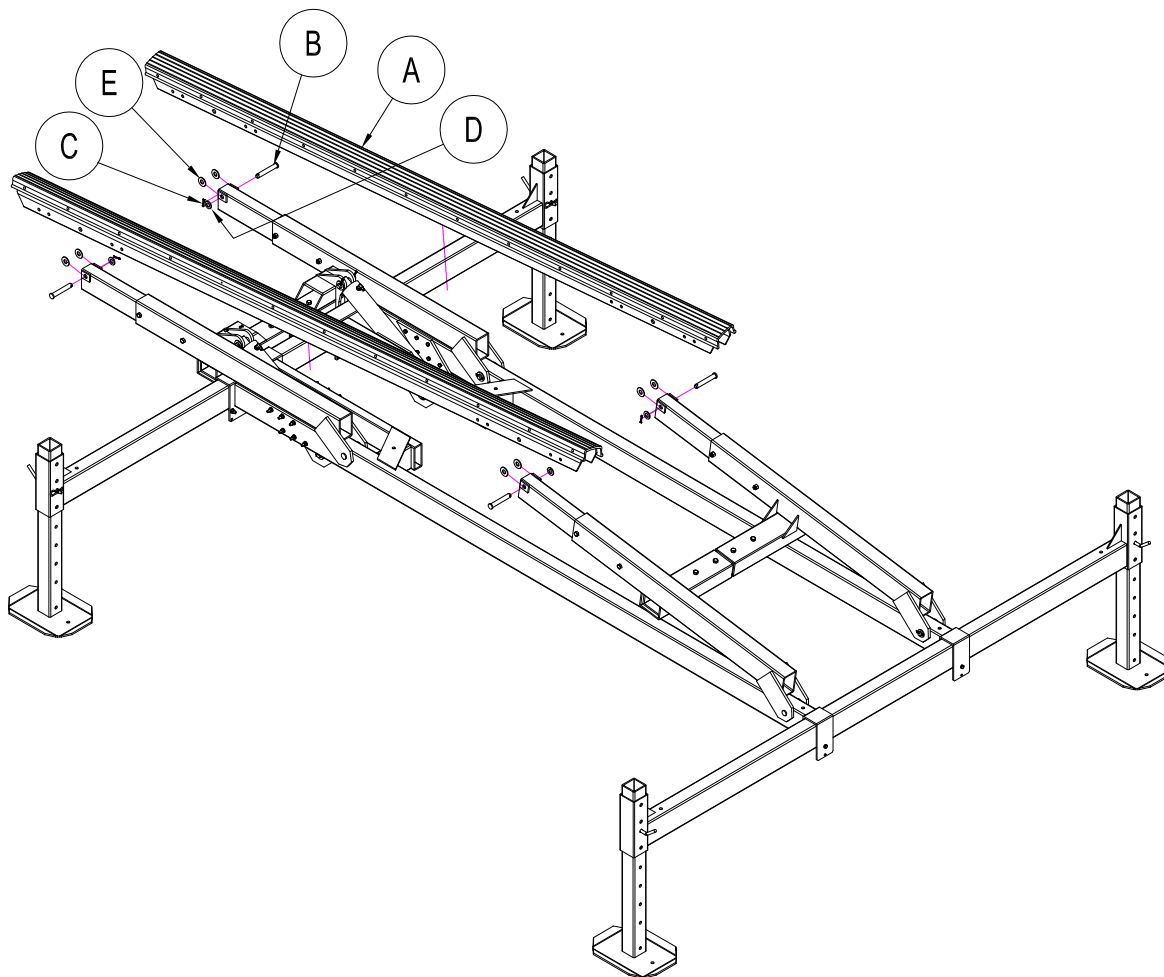

Figure 2-1.
1. **Refer to Figure 2-1.** Remove HL bunks to convert and add parts to make a pontoon boat lift. Dis-assemble items Cotter Pin (C), 3/4" flat washer (D), Clevis Pin (B), and Bunk Spacers (E). Repeat three times to remove all bunk mounting pins. Keep these parts A thru E, they will be used later when installing the pontoon brackets. Remove the bunks and keep to be used later in the assembly.